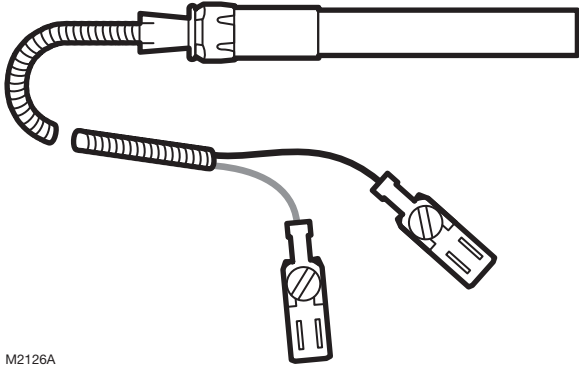

Fig. 5. Attach quick-connect terminals.
2. If available, attach quick-connect terminals to spade connectors (see Fig. 5).